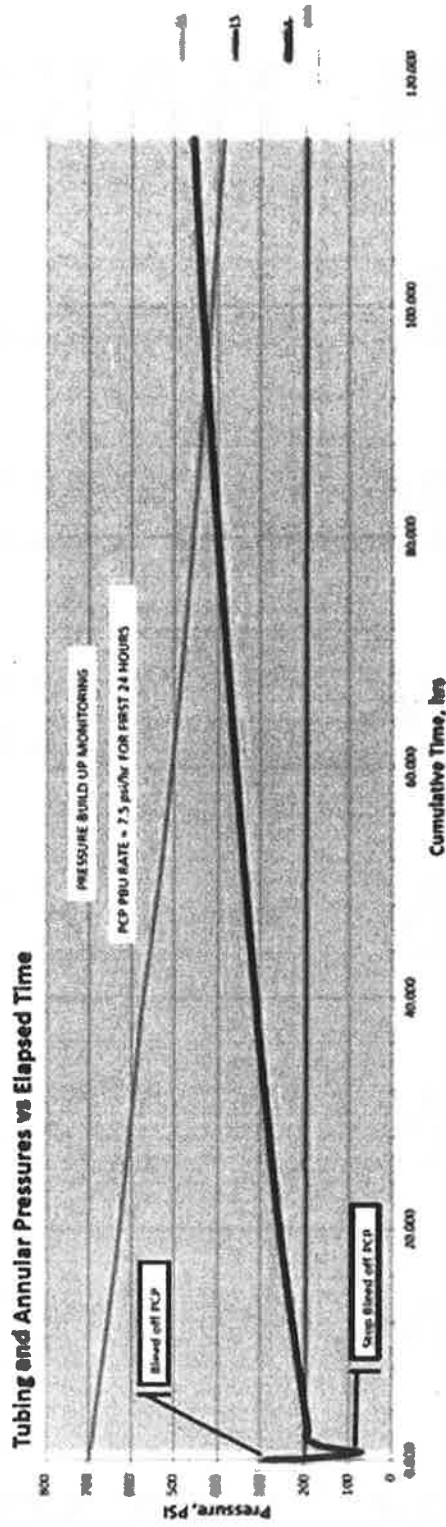

FIGURE Q3: APD Result and well information for XX-01
- c. During a routine annulus pressure diagnostic (APD), the result for well XX-01 (currently shut-in oil producer) and its completion properties are shown by **FIGURE Q3 and TABLE Q3**, respectively. During PCP bleed-off, fluid was recovered. The APD was performed over a period of 115 hrs before the digital pressure gauges batteries were depleted. Thereafter the APD was called off due to bad weather.